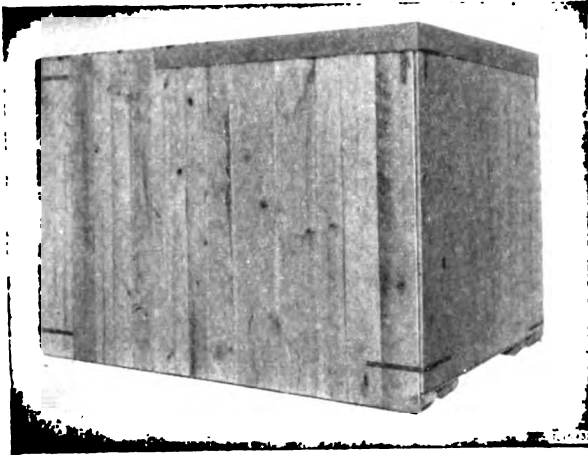
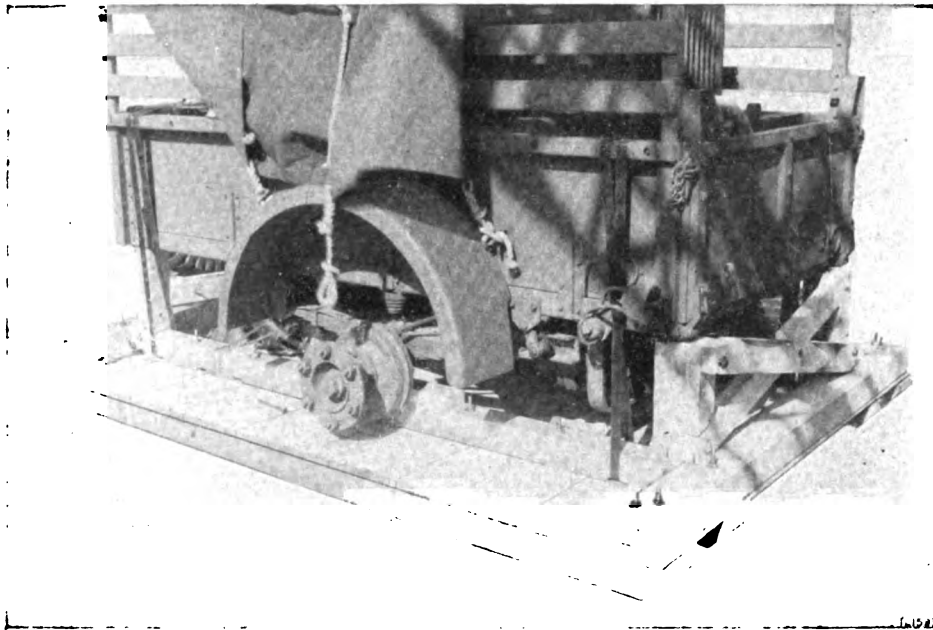

Figure 24. Shipping Box for Trailer K-52-() with Power Unit PE-95-() installed.
Figure 25. Trailer K-52-() with Power Unit PE-95-() installed, on shipping crate.
(11) The second box (fig. 24) contains Trailer K-52-() in which Power Unit PE-95-() is installed prior to shipment. With nail pullers and prybars, remove the top of this box.
(12) Remove the four sides of the trailer box.
(13) Remove the waterproof wrapping from about the trailer.
(14) Remove the shoring and straps which hold the trailer to the bottom of the box, (See fig. 25.)
(15) Remove the trailer from the bottom of the box.
(16) Check the contents of the trailer against the packing list.